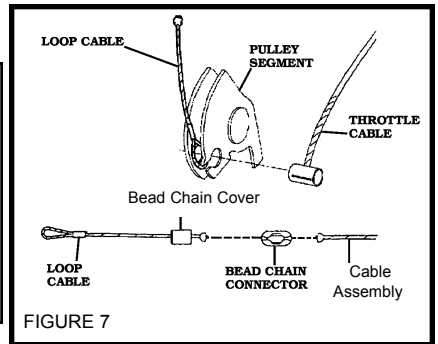

FIGURE 7
3. Hold the **LOOP CABLE** between the holes in each side of the pulley. Slide the barrel at the end of the throttle cable through the slotted hole, then through the **LOOP CABLE** and into the second hole. **Figure 7**